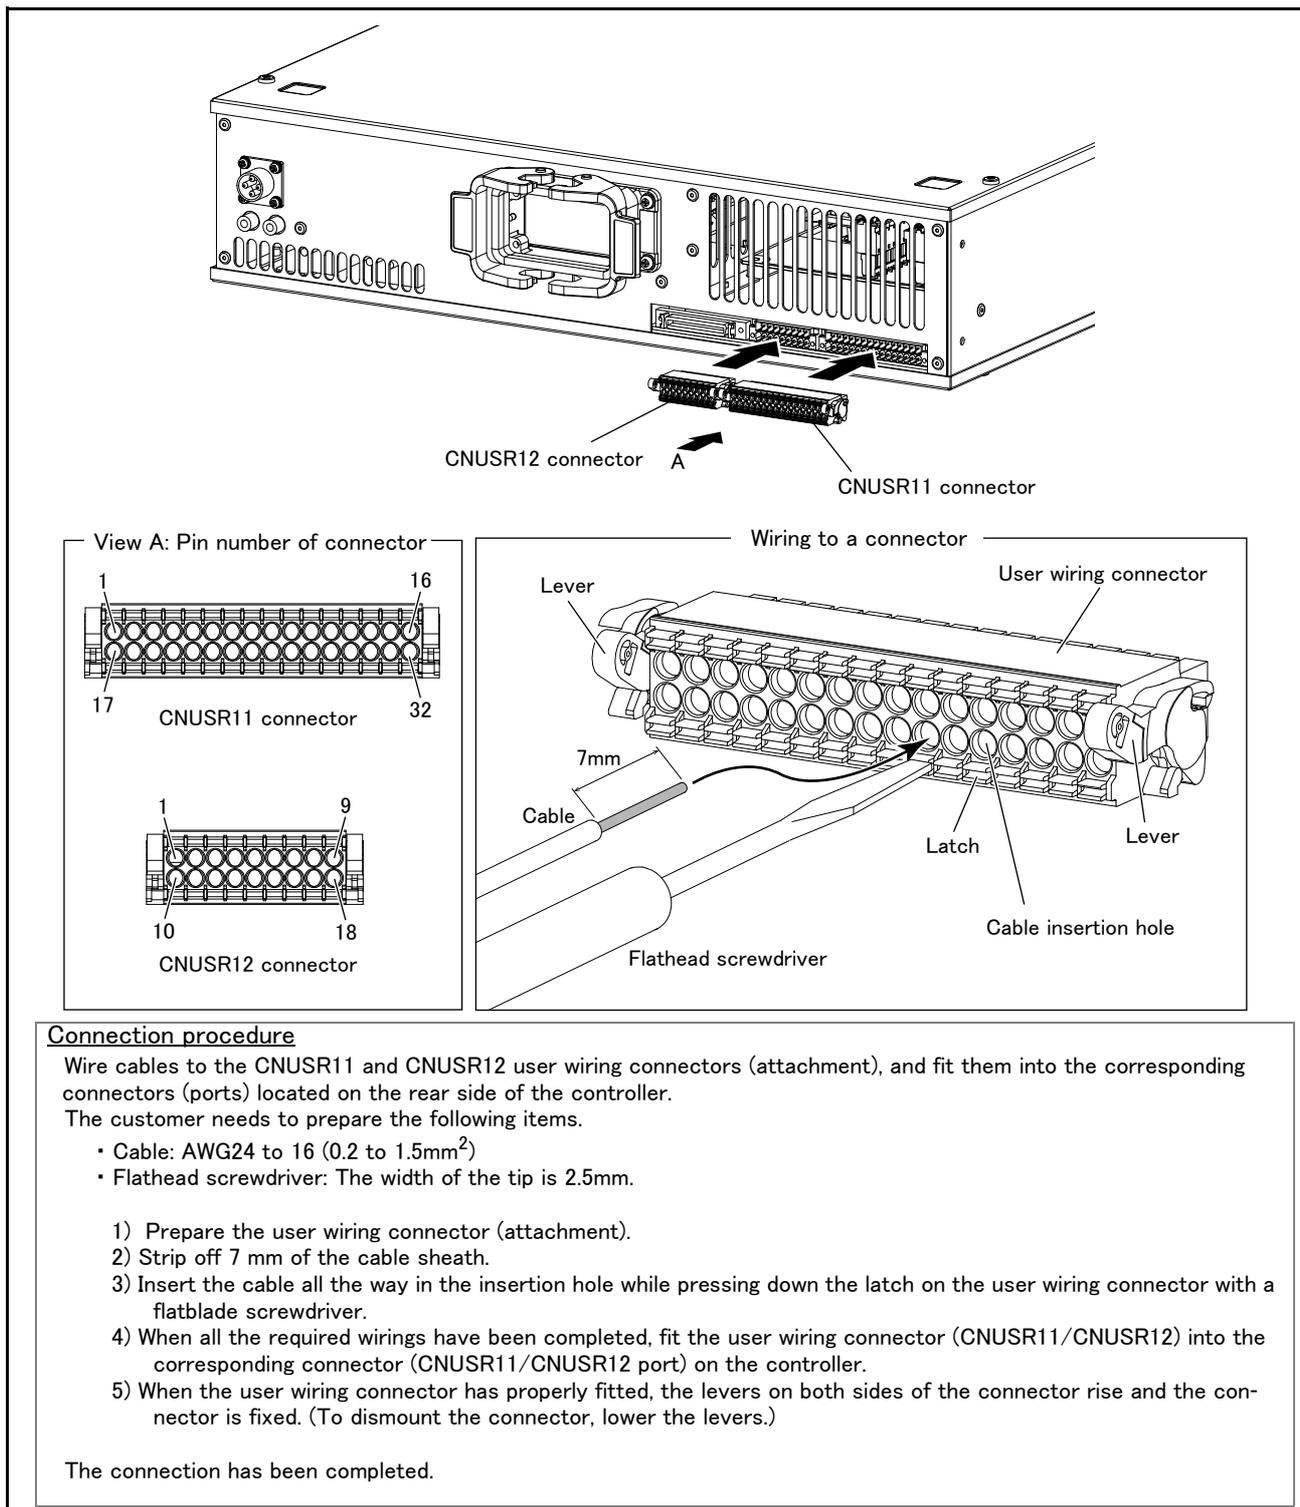

Fig.3-10 : Wiring method to the user wiring connector
* Refer to Page 79 "Fig. 3-10: Wiring method to the user wiring connector" for more details about how to wire a connector.